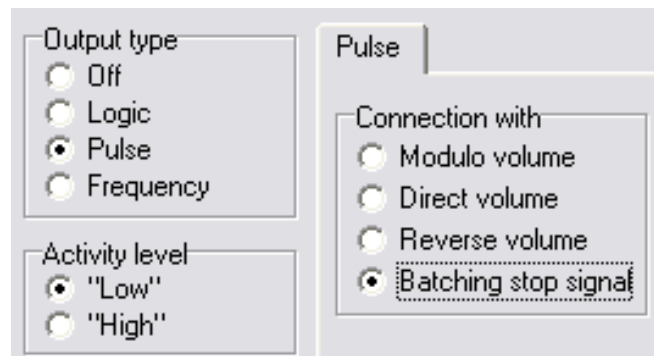

Fig.4. Connection of the pulse output with the batcher operation mode.
- in the *Pulse* tab, select **Batching stop signal mode** (Fig.4).